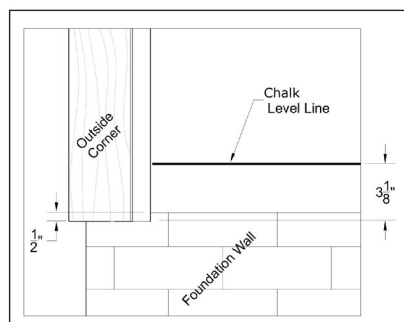

Figure 1
- Measure & chalk a level line 3-1/8" up from the lowest point of the wall (Figure 1).